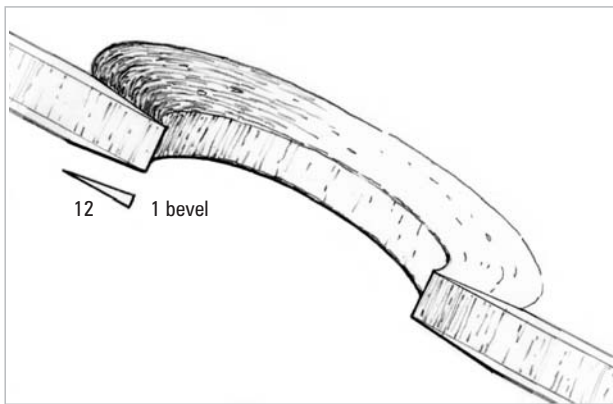

Figure 5-13 Grind a 12-to-1 bevel on the edges of the inner and outer skins.
1. Prepare the hole by cutting away ragged or damaged skin. Cut back to undamaged core and skin while maintaining a circular or oval hole shape. Grind a minimum 12-to-1 bevel on the edges of the inner and outer skins at the hole to provide adequate bonding surface when re-laminating the skin repair patches. For example, if the skin is $\frac{1}{4}$ " (6mm)-thick, the bevel will extend 3" (7.5cm) from the edge of the hole (*Figure 5-13*).